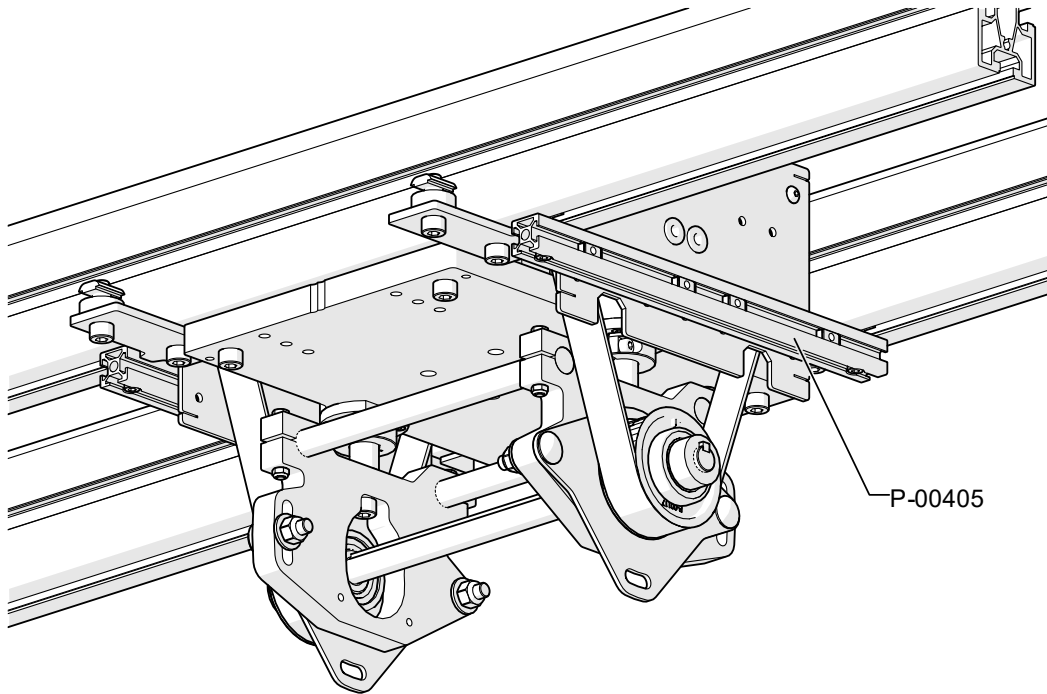

Figure 14: Installed Side Rail
Step 6: Install guard package and secure using the M5 BHCS as shown below in Figure 14.